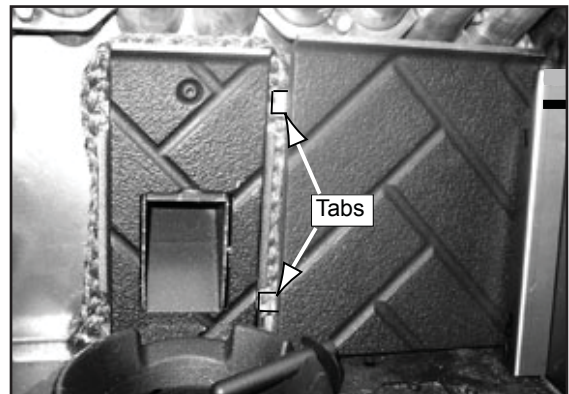

Figure 39.4
1. Place right brick in behind the right bracket, and then slide to the left so the tabs are behind the center brick. **Figure 39.4.**